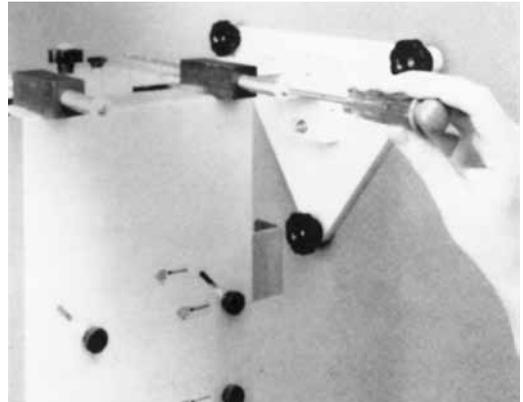

Figure 11
2. Remove the screws and plastic rings from the end of both cassette travel rods (Figure 11).